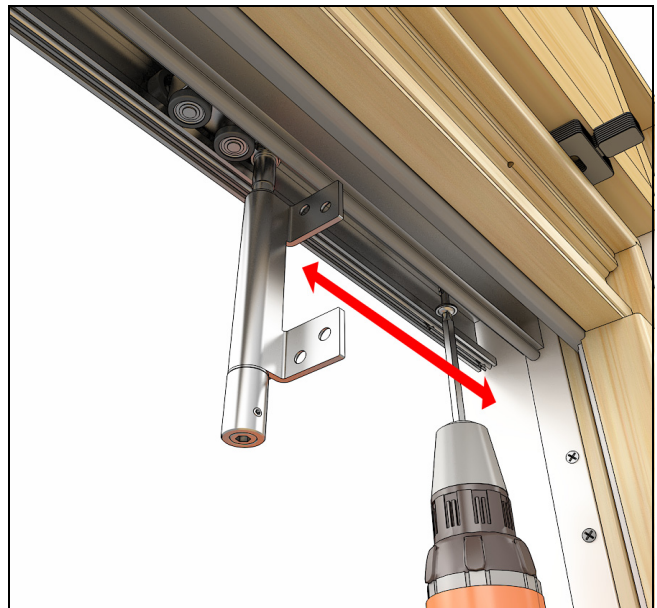

Figure 16
7. Place shims at each head jamb install screw location. Fasten the head jamb track through all the pre-drilled holes and test fit carrier. Apply sealant to the threads and heads of each screw prior to fastening. See Figure 16. NOTE: These screws are installed at a slight angle towards the interior.